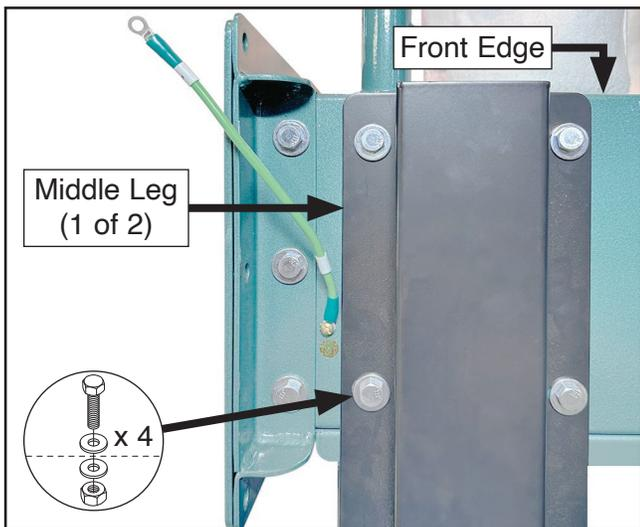

Figure 32. Middle leg installed on front edge of machine body.
- Install (1) middle leg to front left edge of machine body with (4) hex bolts, (8) flat washers, and (4) hex nuts removed in **Step 6** (see **Figure 32**). Hand-tighten fasteners for now.